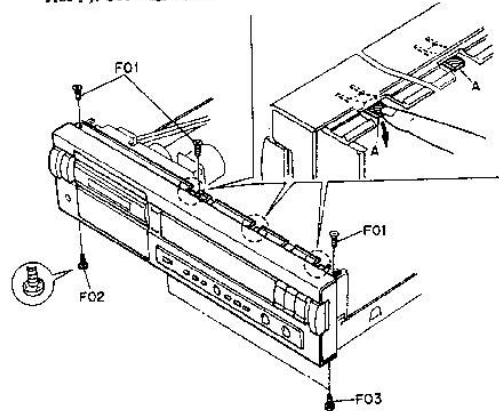
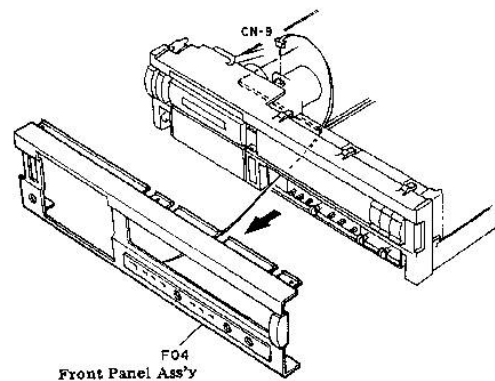

Fig. 2.4.1
Fig. 2.4.2
Refer to Figs. 2.4.1 and 2.4.2.
- (1) Remove the Top Cover Ass'y referring to item 2.1.
- (2) Loosen screws F03 (2 pcs.), F02 (1 pce.) and F08 (2 pcs.). See Fig. 2.4.1.
- (3) Press claws A (3 pcs.) downward to unhook them.
- (4) Disconnect a connector (CN-9) and remove F04 (Front Panel Ass'y). See Fig. 2.4.2.